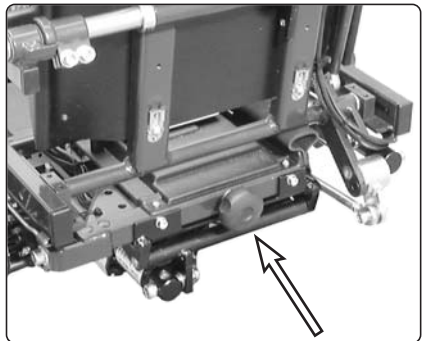

Fig. 12. Adjustment of the knee stops layout.
1. Adjust the knee stop for the sitting position to a location approx. 1-1.5" in front of the leg. The adjustment is performed using the knob that is located on the rear edge of the seat's frame, see Fig. 12.